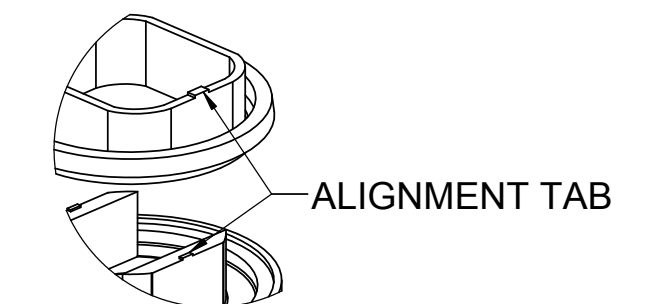

FIG. 2
11. Place the new Gasket onto the Spray Tip and press it firmly into place, making sure the alignment tabs on the Gasket are orientated with the alignment tabs on the Spray Tip as in Fig 2.